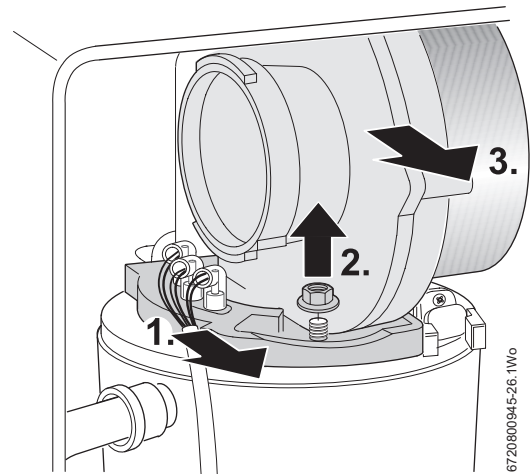

Fig. 57 Fan removal
1. Disconnect the power cable and earth from the fan and the ignition and flame monitoring electrode leads, → Fig. 57.